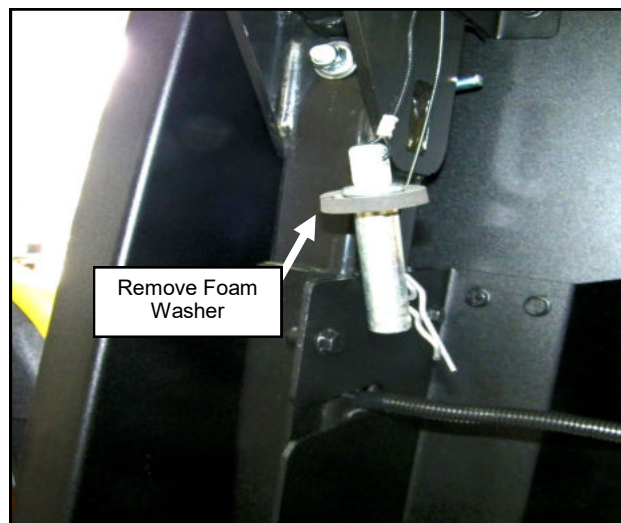

Fig. 4.2 (Remove ROPS Pin)
**4.2** Remove the left ROPS pin and remove the foam washer. The foam washer will not be re-used. See Figure 4.2.